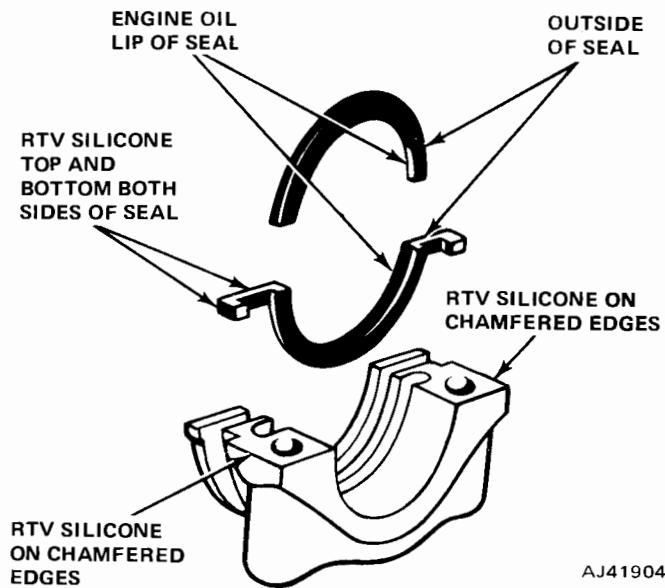

Fig. 1A-35 Rear Main Oil Seal and Cap Installation
(7) Coat both sides of lower seal end tabs with Jeep Gasket-in-a-Tube (RTV silicone), or equivalent, being careful not to apply sealer to lip of seal.
(8) Coat outer curved surface of lower seal with soap and lip of seal with engine oil.
(9) Install seal into cap recess and seat it firmly.
(10) Coat with Jeep Gasket-in-a-Tube (RTV silicone), or equivalent, on both chamfered edges of rear main bearing cap (fig. 1A-35).